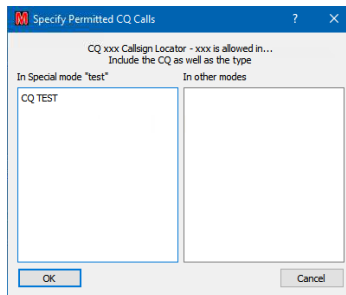

Figure 64 – Configure CQ auto responses
- **‘Config CQ’**: Initiates the ‘Configure CQ’ dialogue (Figure 64) to define which CQ calls will result in an auto-response in both (Con)test and non-(Con)test modes so that in a contest there is no automatic response to non-contest calls and vice versa.